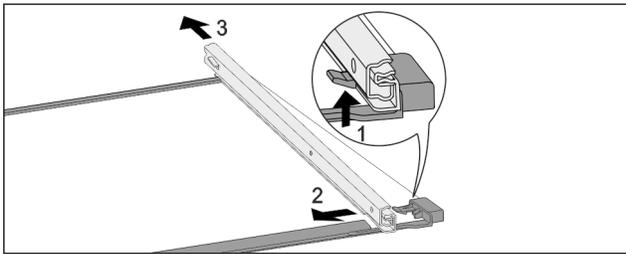

Fig. 151 Glass shelf with rails
- ▶ Push up front click-in hooks. Fig. 151 (1)
- ▶ Slide pull-out rails to the side Fig. 151 (2) and backwards Fig. 151 (3).